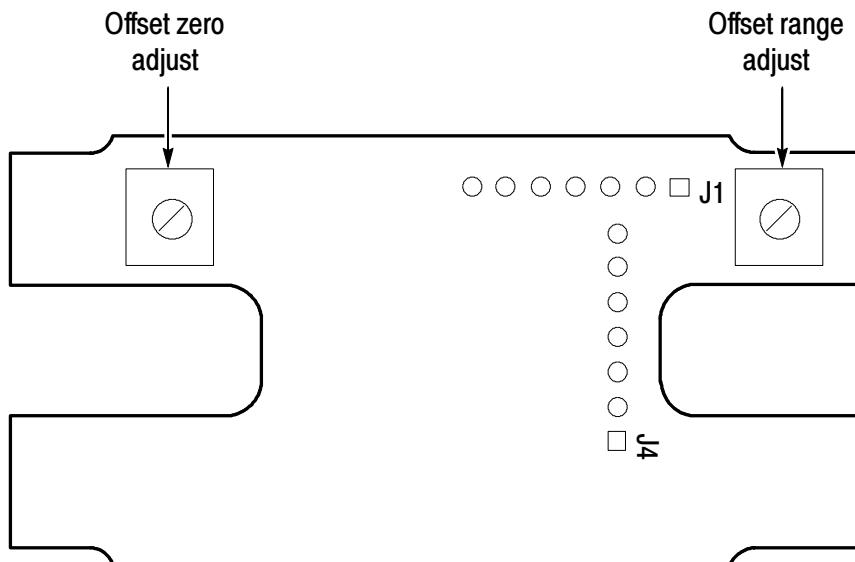

Figure 18: P6241 adjustment locations
Refer to Figure 18 for the location of the offset zero and offset range controls.
6. Adjust **Offset Range** for a DMM reading of $0 \text{ V} \pm 5 \text{ mV}$. Refer to Figure 18 on page 53 for the location of the offset range adjustment.